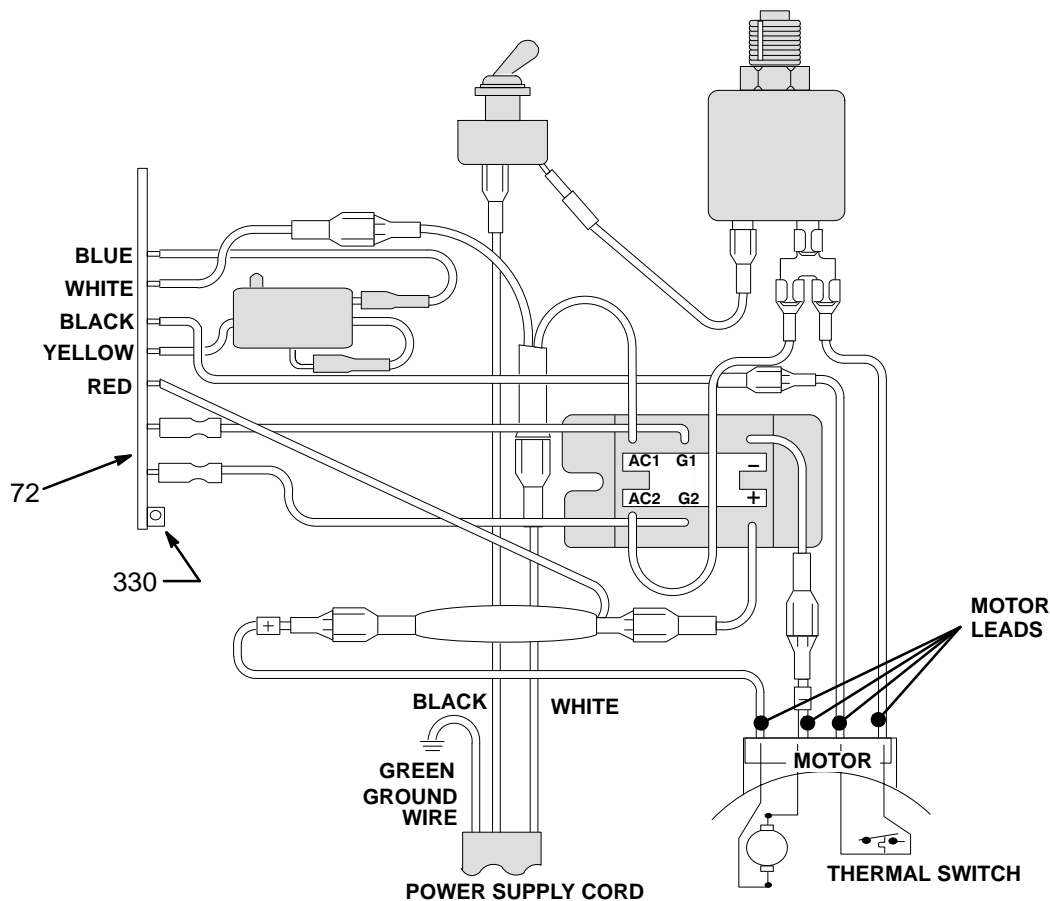

Fig 28-2
2. Disconnect the fluid outlet hoses. Disconnect the hose (68) between the pump and pressure control.
3. Loosen the filter bracket nut (37).
4. Hold the hex of the pressure control adapter (341) firmly with a 3/4" open end wrench. Use an adjustable wrench to unscrew the swivel union (38 or 5), and then remove the fluid filter (67).
5. Remove the pressure control cover (62). Disconnect the four motor leads. See Fig 28-2.
7. Remove the conduit (1).
8. Remove the three pressure control mounting screws (7), lockwashers (9) and nuts (10). Remove the pressure control.
9. Remove the screws (20) and back mounting bracket (64).